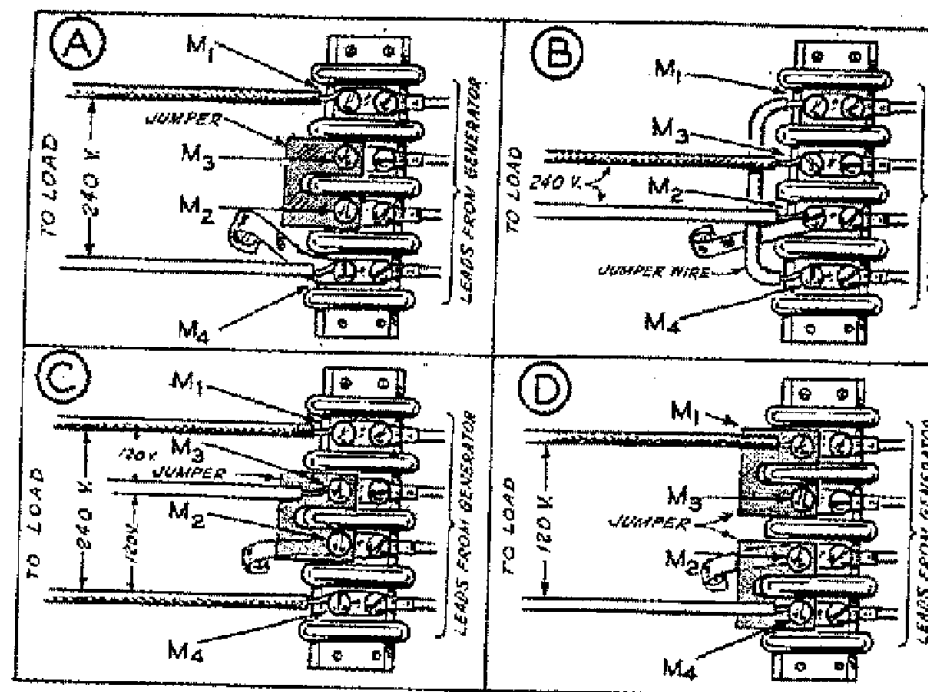

Fig. 6 Single Phase Plant
Load connections are to be made to terminals inside the terminal box on the side of the generator. These load terminals are marked M1, M3, M2, and M4 from top to bottom. When the plant is shipped, two heavy jumper bars are connected across terminals M3 and M2. This jumper connection provides for two 120 volt circuits (with 1/2 the plant capacity available on each separate circuit), or one 240 volt circuit. Refer to C, Fig. 6. For 120 volt service, connect the black (hot) wires to the M1 and M4 terminals, and the white (ground) wire to the M2 or M3 terminal. Remember that **ONLY ONE HALF** the rated capacity of the plant will be available on either of the two separate 120 volt circuits. The two black wires will give 240 volt ungrounded service.
If the full rated capacity of the plant at 120 volts **ON ONE CIRCUIT ONLY**, is desired, remove the two jumper bars from across terminals M3 and M2. Reconnect the jumper bars, one across terminals M1 and M3, and the other jumper across terminals M2 and M4. Connect the black (hot) load wire to the M1 terminal, and the white (ground) wire to the M4 terminal. Refer to D, Fig. 6.
If 240 volt current only is to be used, and **NEITHER** load wire is white (grounded), leave the jumpers connected across terminals M3 and M2. Connect load wires to terminals M1 and M4. Refer to C, Fig. 6.
a. Remove the two jumper bars connecting terminals M3 and M2, temporarily. Disconnect the short grounding wire from the M2 terminal and connect it to the M4 terminal. Reconnect the jumper bars across terminals M3 and M2. Connect the black (hot) load wire to the M1 terminal, and the white (grounded) load wire to the M4 terminal. Refer to A, Fig. 6.
b. Remove (and save for possible future use) the two jumper bars connecting terminals M3 and M2. Using a short length of #10 or larger wire, connect terminals M1 and M4 together. Connect the black (hot) load wire to the M3 terminal, and the white (grounded) load wire to the M2 terminal. Refer to B, Fig. 6.
Be sure the jumper connections are properly made, as explained under **VOLTAGE SELECTION, SINGLE PHASE PLANT**. Connect the load wires to the proper terminals as shown, according to the jumper connections made, Fig. 6.
Some early plants with SPEC designation ending in the letter "A" were not internally grounded. If inspection shows that there is no ground jumper wire between the M2 terminal and a grounding screw inside the terminal box (Fig. 6), a similar ground connection must be made. Run a short length of No. 10 wire between the battery negative terminal and the M2 terminal, if 115/230 volt service is to be used. If grounded 230 volt service is to be used, connect the ground jumper to the M4 terminal, instead of to the M2 terminal. BE SURE THIS GROUND JUMPER WIRE IS PRESENT IN ALL CASES WHERE USING AUTOMATIC CONTROL EQUIPMENT.